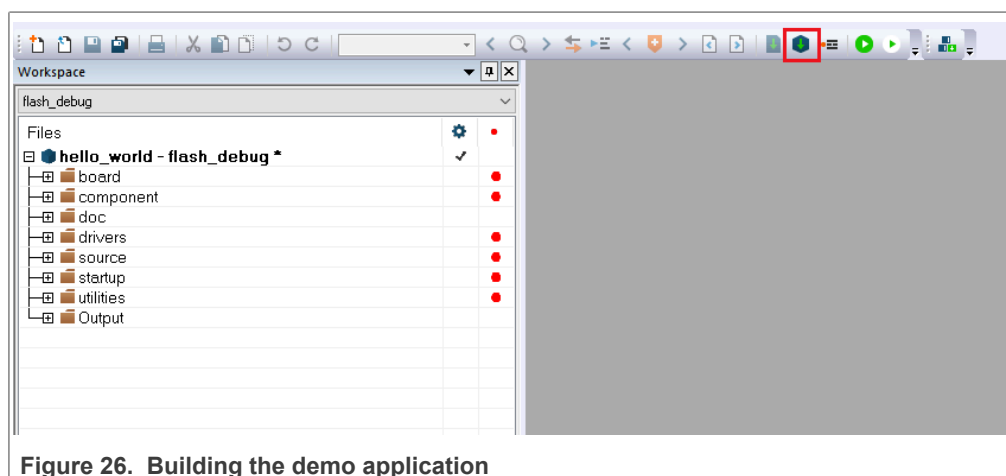

Figure 26. Building the demo application
3. To build the demo application, click **Make**, highlighted in red in Figure 26.